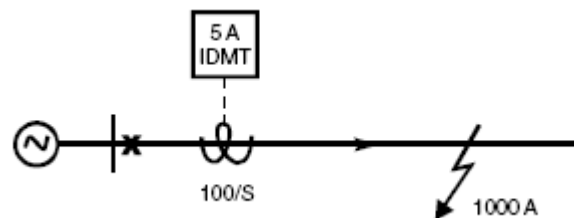
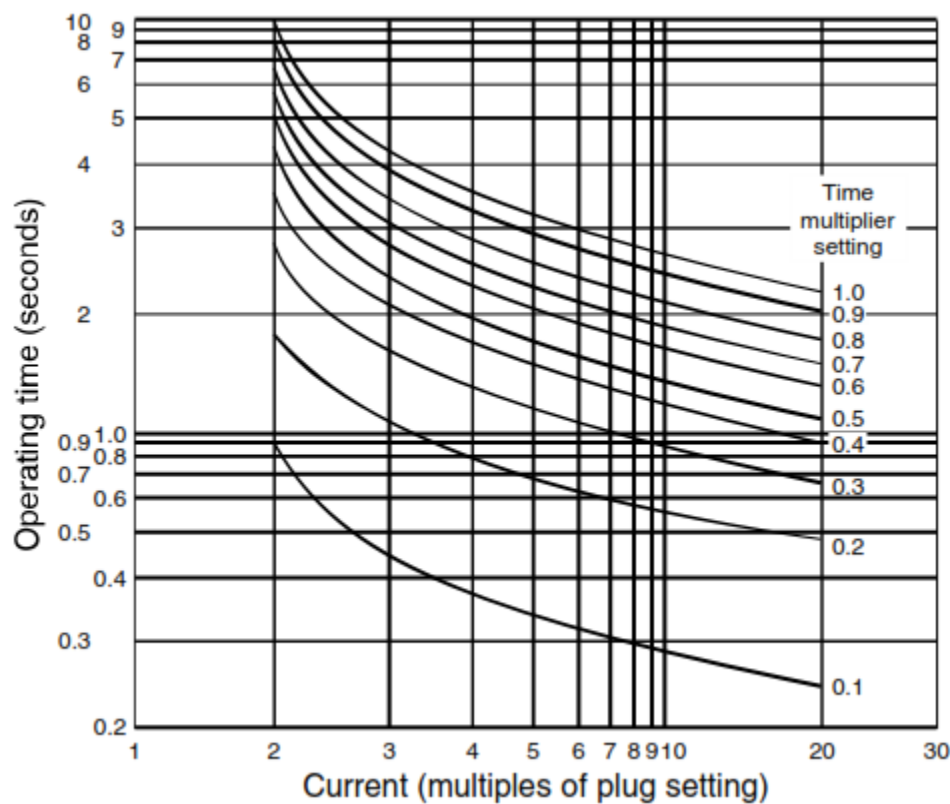

Figure 1
Figure 2 (Figure – 1A given previously)
Example: Calculate the plug setting and time multiplier setting for an IDMTL relay on the following network so that it will trip in 2.4 s (see Figure 1). The relay characteristic is shown in Figure 2. The C.T. setting is 100/5 A and the fault current is 1000 A.
- We require the relay to operate after 2.4 s as soon as this much current starts flowing in the circuit. Referring to characteristic curves given in Figure 2 above, read time multiplier setting where 10 times plug setting current and 2.4 s cross, which is about 0.8. Accordingly, relay settings = current plug tap 5 A (100%) and time multiplier 0.8.